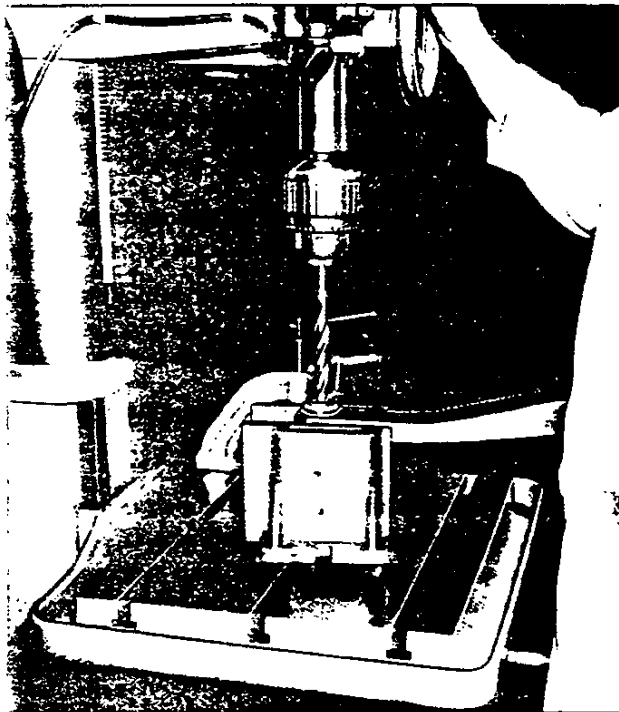

Fig. 25—Drilling Out Retainer Flare
1. Using $\frac{11}{16}$ " drill, drill out flared end of bushing retainer (fig. 25.)